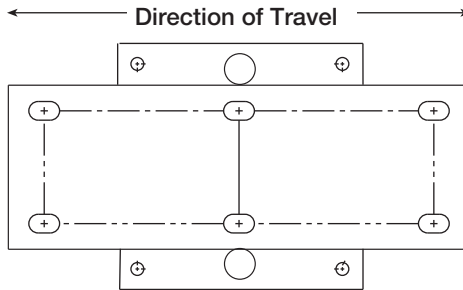

Figure 2-1. Direction of Travel
10. Align the load cell mount in the direction of travel. See Figure 2-1.